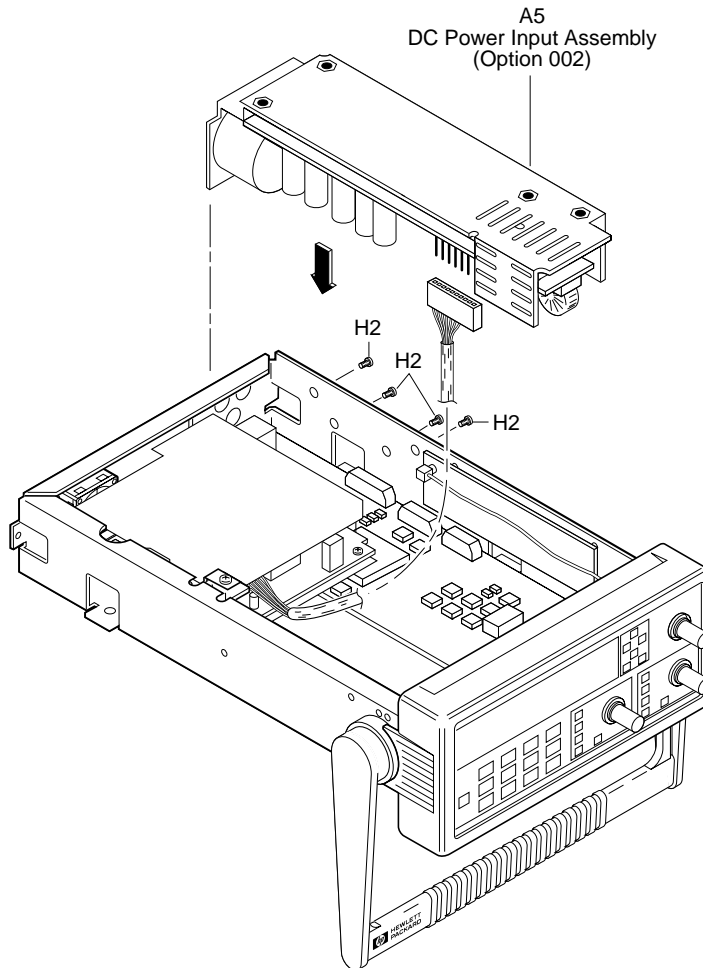

Figure 4-1C. DC Power Input Assembly Retrofitting
- a. First, connect the other ac power supply cable to the connector on A5 printed-circuit board as shown in Figure 4-1C.**
- c. Using the four TORX 10 screws (H2), secure A5 DC Power Input Assembly to the side of the chassis (MP10) as shown in Figure 4-1C.